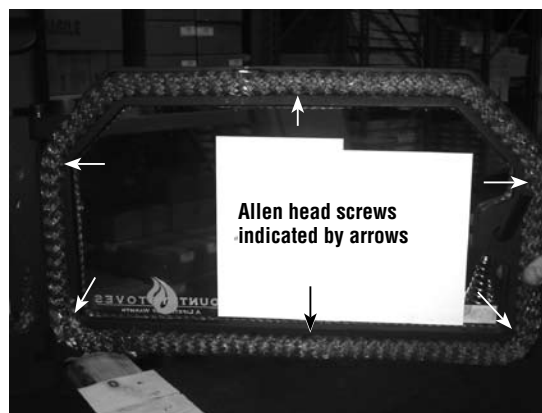
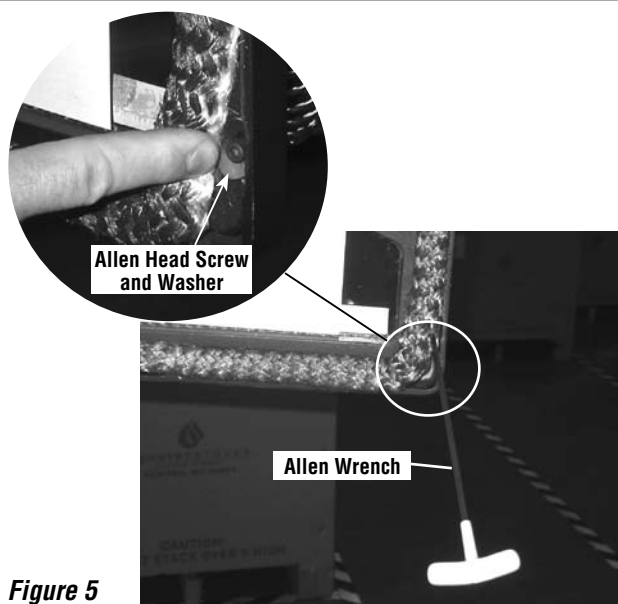

Figure 4
Figure 5
Step 2. Remove Faceplate Screws and Washers - Partially peel back the door gasket, to expose the six screws and washers (see **Figure 4**). **Note:** Peel the gasket back just enough to get your 5/32" allen wrench on the screws (see **Figure 5**). It is very important not to pull the gasket all the way off the door. If the gasket becomes hard to pull, you have gone too far. Fragile care should be taken when working around the door rope junction.